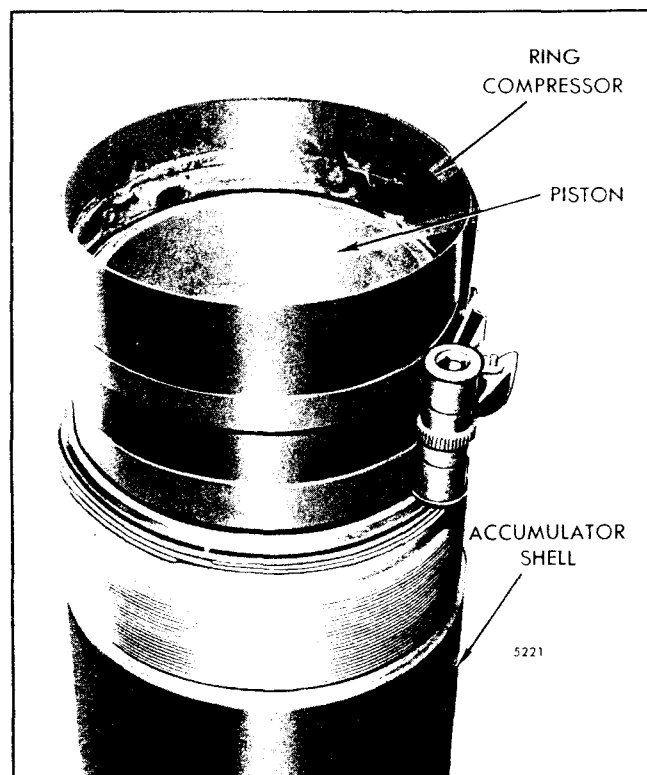

Fig. 22 - Installing Piston in Accumulator Shell
4. Install the ring compressor on the piston and rings and place the entire assembly on the open end of the shell (Fig. 22). Lubricate the inner surface of the ring compressor and the beginning inner region of the shell